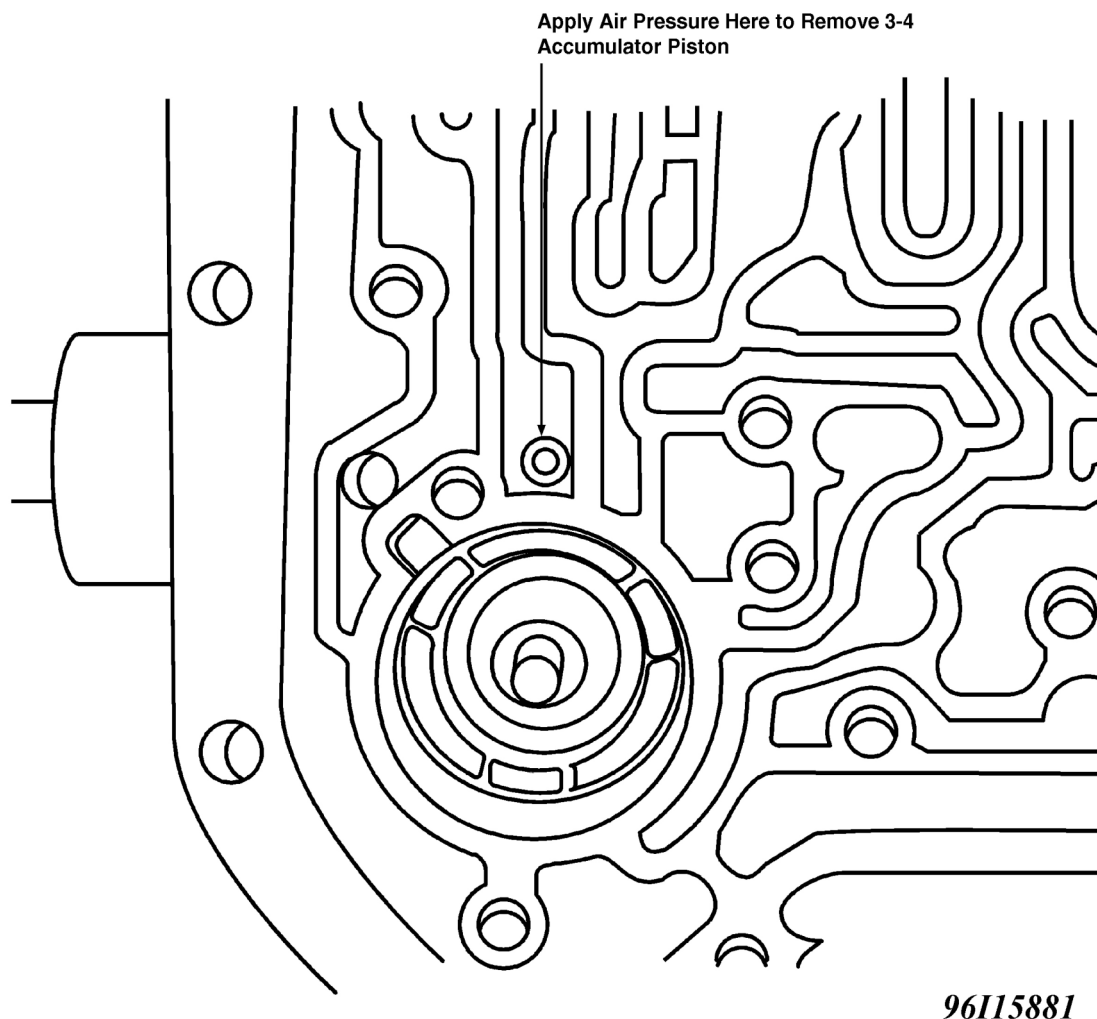

Fig. 4: View of Case Core Passage
6. Remove control valve assembly gaskets and spacer plate from transmission case. Withdraw 3-4 accumulator spring, piston and pin from bore in case. It may be necessary to apply low air pressure (approximately 3 psi) to orifice in case core passage to remove piston. See **Fig. 4**.